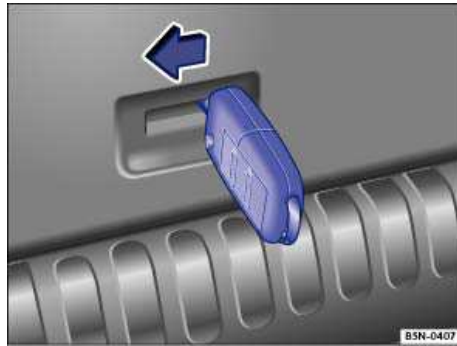

Fig. 185 View from luggage compartment: Emergency unlocking rear hatch with the remote control vehicle key.
- Insert the key bit into the opening in the rear hatch trim and press in the direction of the arrow ⇒ fig. 185 to unlock the rear hatch.